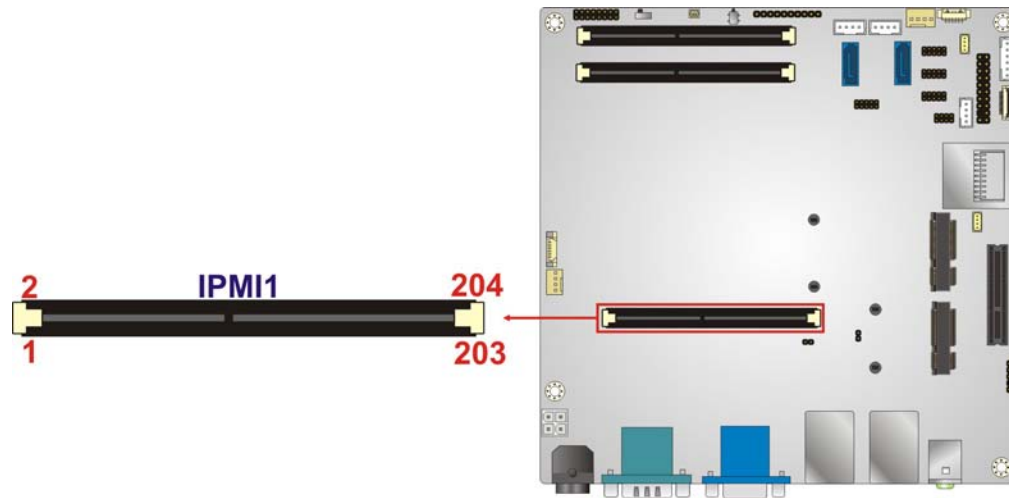

Figure 3-11: IPMI Slot Location
- CN Location:See **Figure 3-11**